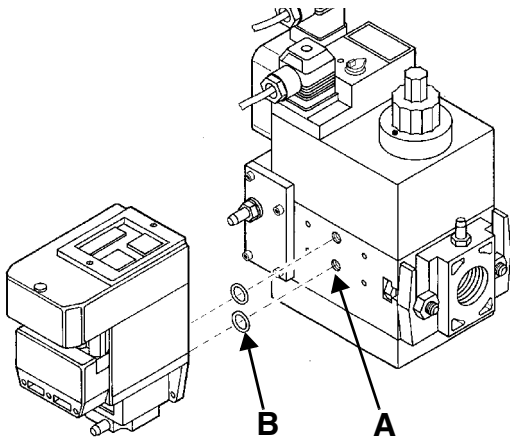
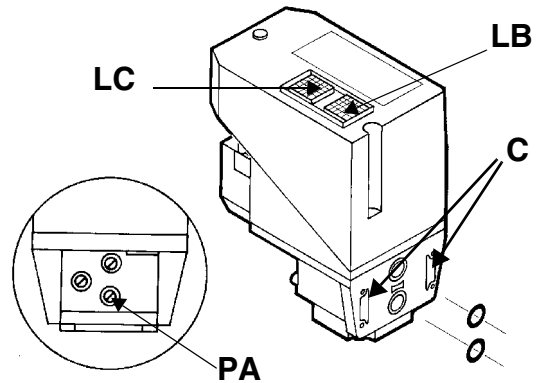

Fig. 13
Fig. 14
- 3 remove the Multibloc screw plugs (Fig. 13-A);
- 4 insert sealing rings (10,5 x 2,25) into VPS 504 (Fig. 13-B - Fig. 14)
5 Torque screws 3, 4, 5, 6 (M4 x16) Fig. 14-C
When wishing to monitor the test, install a pressure gauge ranged to that of the pressure supply point **PA** (Fig. 14). If the test cycle is satisfactory, after a few seconds the consent light **LC** (yellow) comes on. In the opposite case the lockout light **LB** (red) comes on. To restart it is necessary to reset the appliance by pressing the illuminated pushbutton **LB**.